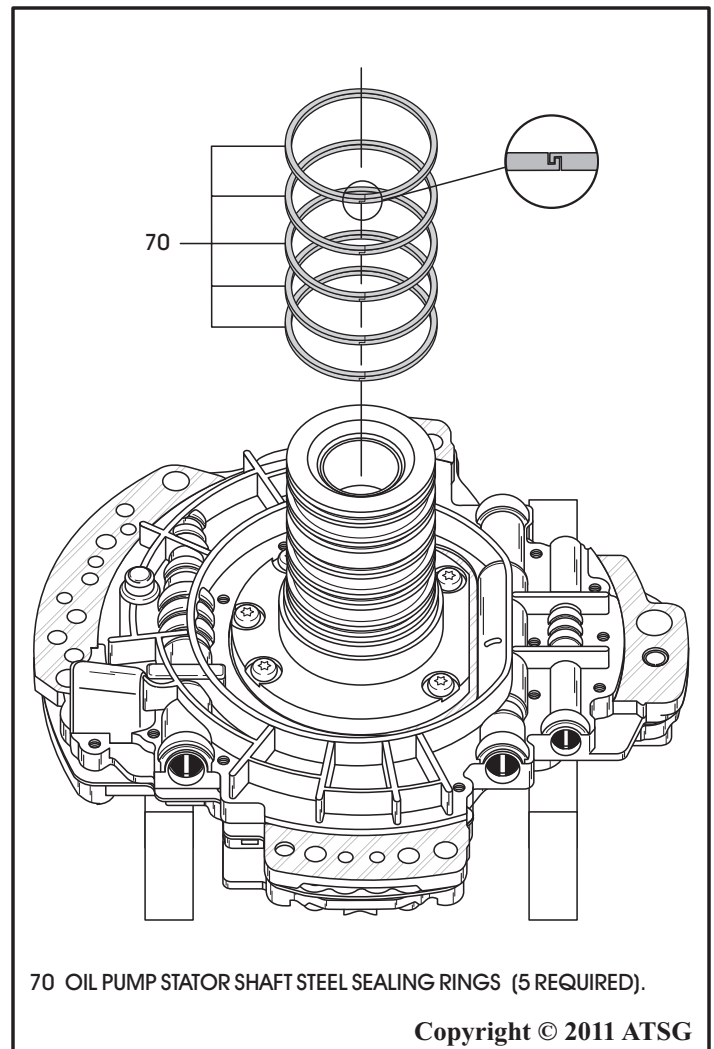

Figure 118
18. Install five new sealing rings on stator support in their respective grooves and ensure that they are properly hooked (See Figure 118).